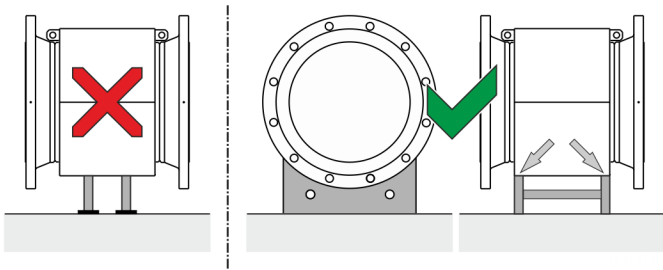

Figure 10: Support for nominal diameters greater than DN 400
- Place the supports at the edge of the sensor housing (see arrows in Figure 10).